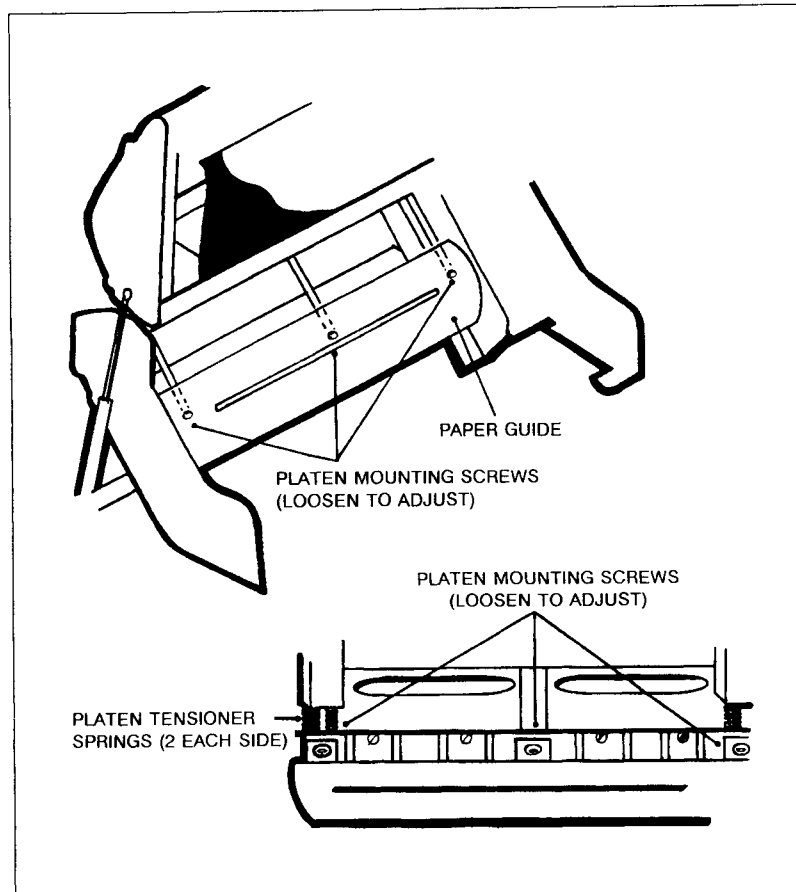

Figure 5-6. Platen Adjusting Screws
- f. Lower the swing gate halfway down and loosen the three 4 mm allen screws located on top of the platen assembly directly under the three cutouts in the platen upper tractor guide rail (see Figure 5-6). Loosen these screws just enough to allow the assembly to slide in and out (approximately 3/4 turn counterclockwise). The adjustment springs